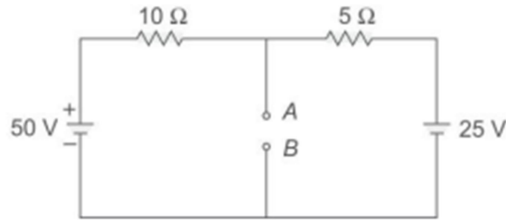

Figure 8
**Example : Determine the Thevenin's equivalent circuit across 'AB' for the given circuit shown in Fig. 8**